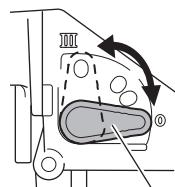

Fig. 5
- (1) This Jig Saw employs orbital operation which moves the blade back and forth, as well as up and down. Set the change knob shown in Fig. 5 to "0" to eliminate the orbital operation (the blade moves only up and down). The orbital operation can be selected in 4 steps from "0" to "III".
- (2) For the hard material, such as a steel plate, etc., decrease the orbital operation. For the soft material, such as lumber, plastic, etc., increase the orbital operation to increase work efficiency. To cut the material accurately, decrease the orbital operation.